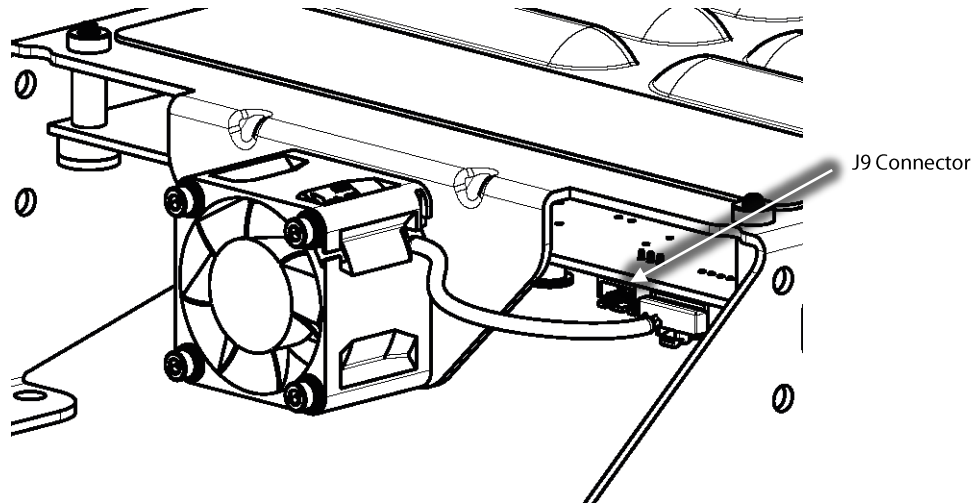

Figure 1 – Soft Start J9 Connector
5. Remove the top cover by releasing the nine (9) screws that secure the cover, taking particular care not to touch ANY components underneath.
6. Using an appropriately rated volt meter, check the DC bus bars for voltage level. If the voltage is above 5VDC, wait five (5) minutes and recheck until 5VDC or below is achieved.
7. Remove the Soft Start Temperature Harness. Refer to Figure 1 (Soft Start J9 Connector).